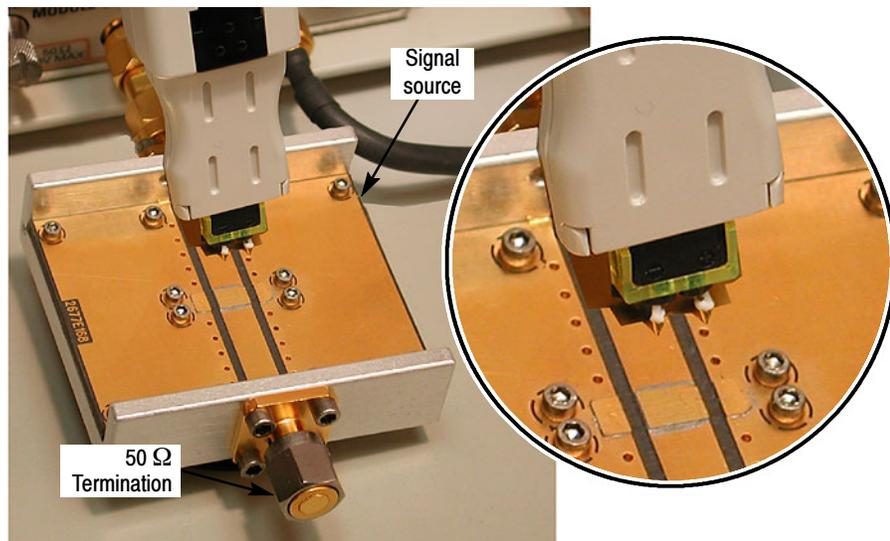

Figure 22: Handheld adapter and calibration fixture
14. Connect the probe input to the probe calibration fixture as shown in Figure 22 on page 38. Check that the TDR function is still active.